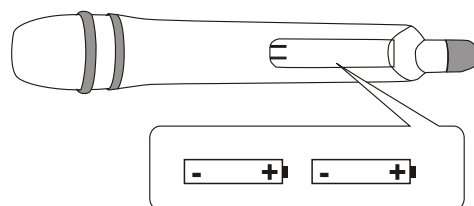

FIGURE 6
2. Take off the transmitter battery cover to expose the battery terminals, as shown in Figure 6.
3. Insert two 1.5VAA alkaline batteries into the battery compartment as shown in Figure 6. Two fresh 1.5V alkaline batteries should typically provide 8 hours of performance time. Two fully charged 1.2V Nicad batteries (1800 mA) should provide 12 hours of performance time. When the LOW BATTERY light on the transmitter turns on, you have 20 minutes or less of useful battery life remaining. Change the battery at your first opportunity.